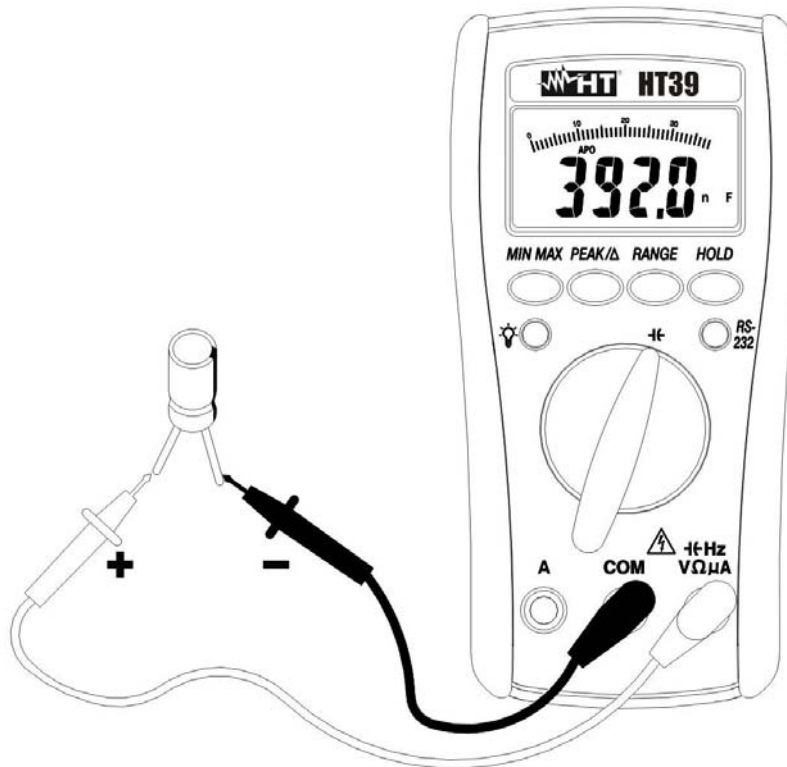

Fig. 10: Capacitance measurement
2. Insert the test leads into the jacks, the red plug into $\rightarrow$ $\text{HzV}\Omega\mu\text{A}$ jack and the black plug into **COM** jack (Fig. 10).